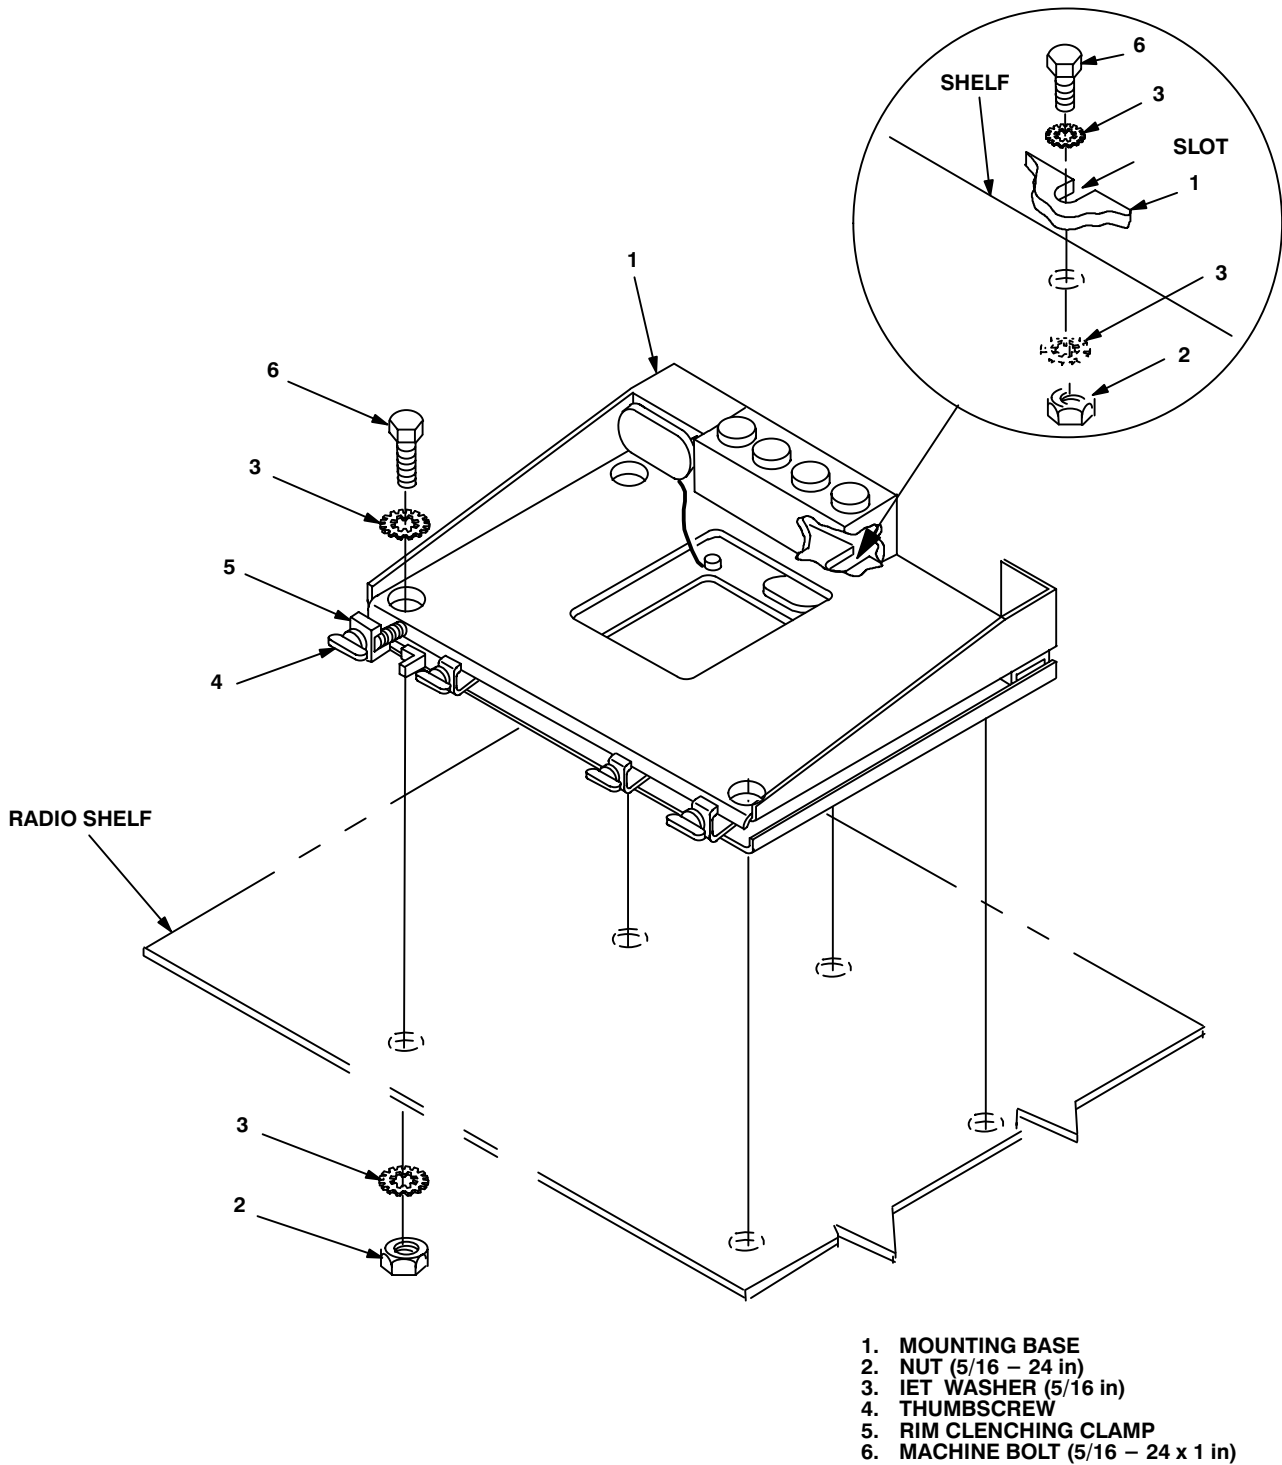

Figure 5-5. Mounting Base Installation
5.2 Installation of Mounting Base, Electrical Equipment MT-6352/VRC (mounting base). Remove and retain attaching bag of 5/16 in mounting hardware for installation. To insure good electrical grounding, any rust, corrosion or paint around mounting holes in radio shelf should be removed before installing the mounting bases. See figure 5-5 and perform the following steps to install both mounting bases. See figure 5-1 (1) for locations.